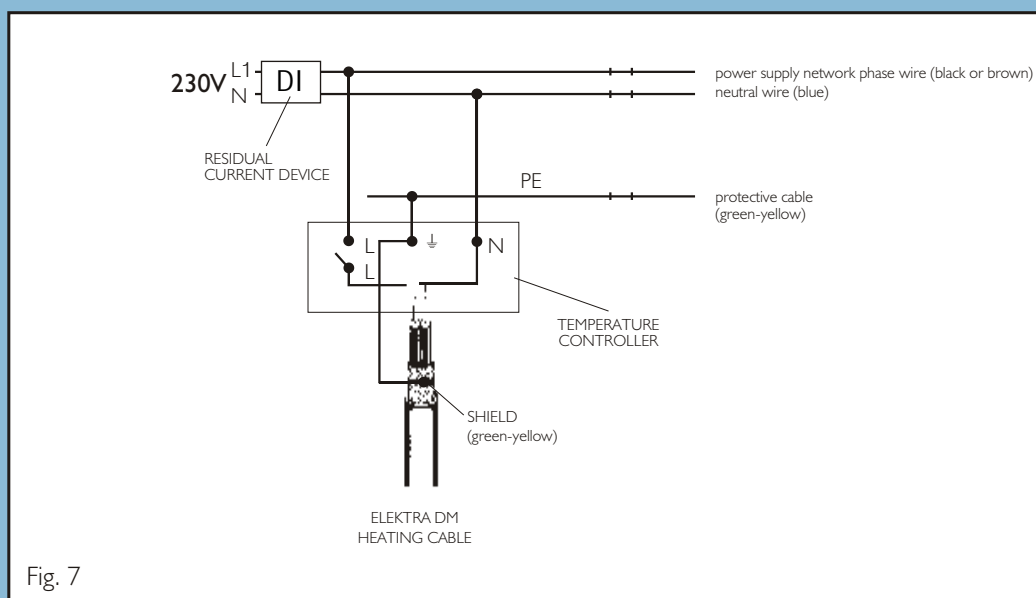

Fig. 7
Absolute safety of ELEKTRA DM heating set is assured by a copper shield covering the entire length of the heating cable and the cold tail cable. The shield must be connected to a protective cable (PE) as shown on Figure 7. A  $D \leq 30$  mA residual current device protecting against electric shock must be installed in heating installations. This residual current device can be a common device for multiple circuits. When ELEKTRA DM heating cables are installed in rooms, where there is no residual current device such a device must be installed for the heating cables.